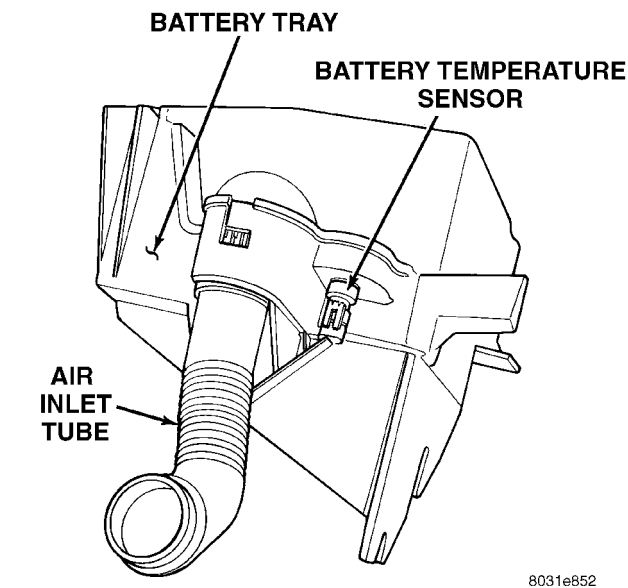

Fig. 15 Battery Temperature Sensor Connector
- (5) Disconnect sensor wire connector (Fig. 15).